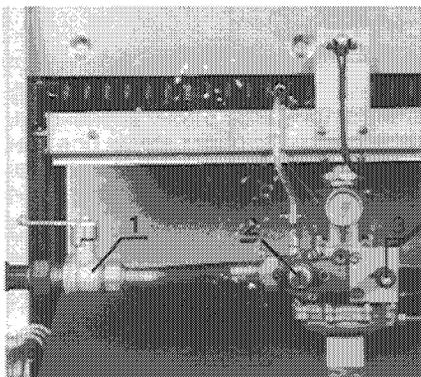

Fig. 5
**11) Lighting the pilots** – Open the gas valve on each module by turning gas cock in line with pipe (1 - Fig. 5). Press the gas control spindle (2 - Fig. 5) and hold in. Light the pilot by pressing piezo ignitor (3 - Fig. 5) and wait for approximately 20 seconds.
Release the gas control spindle (2 - Fig. 5) and the pilot should remain alight. If the pilot will not establish, check that the gas supply to each boiler is purged of air.
Where this is fitted, screw in to reduce the gas rate, and screw out to increase the gas rate (2 - Fig. 5).